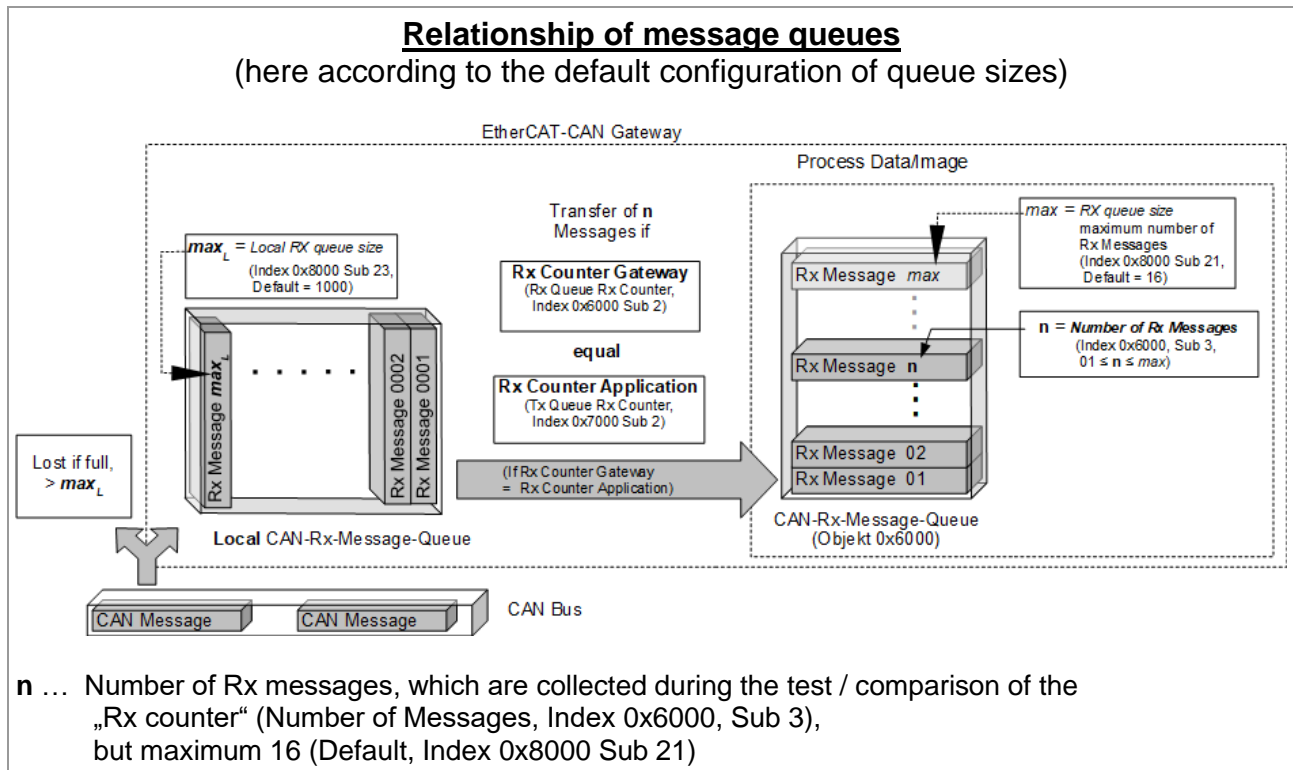
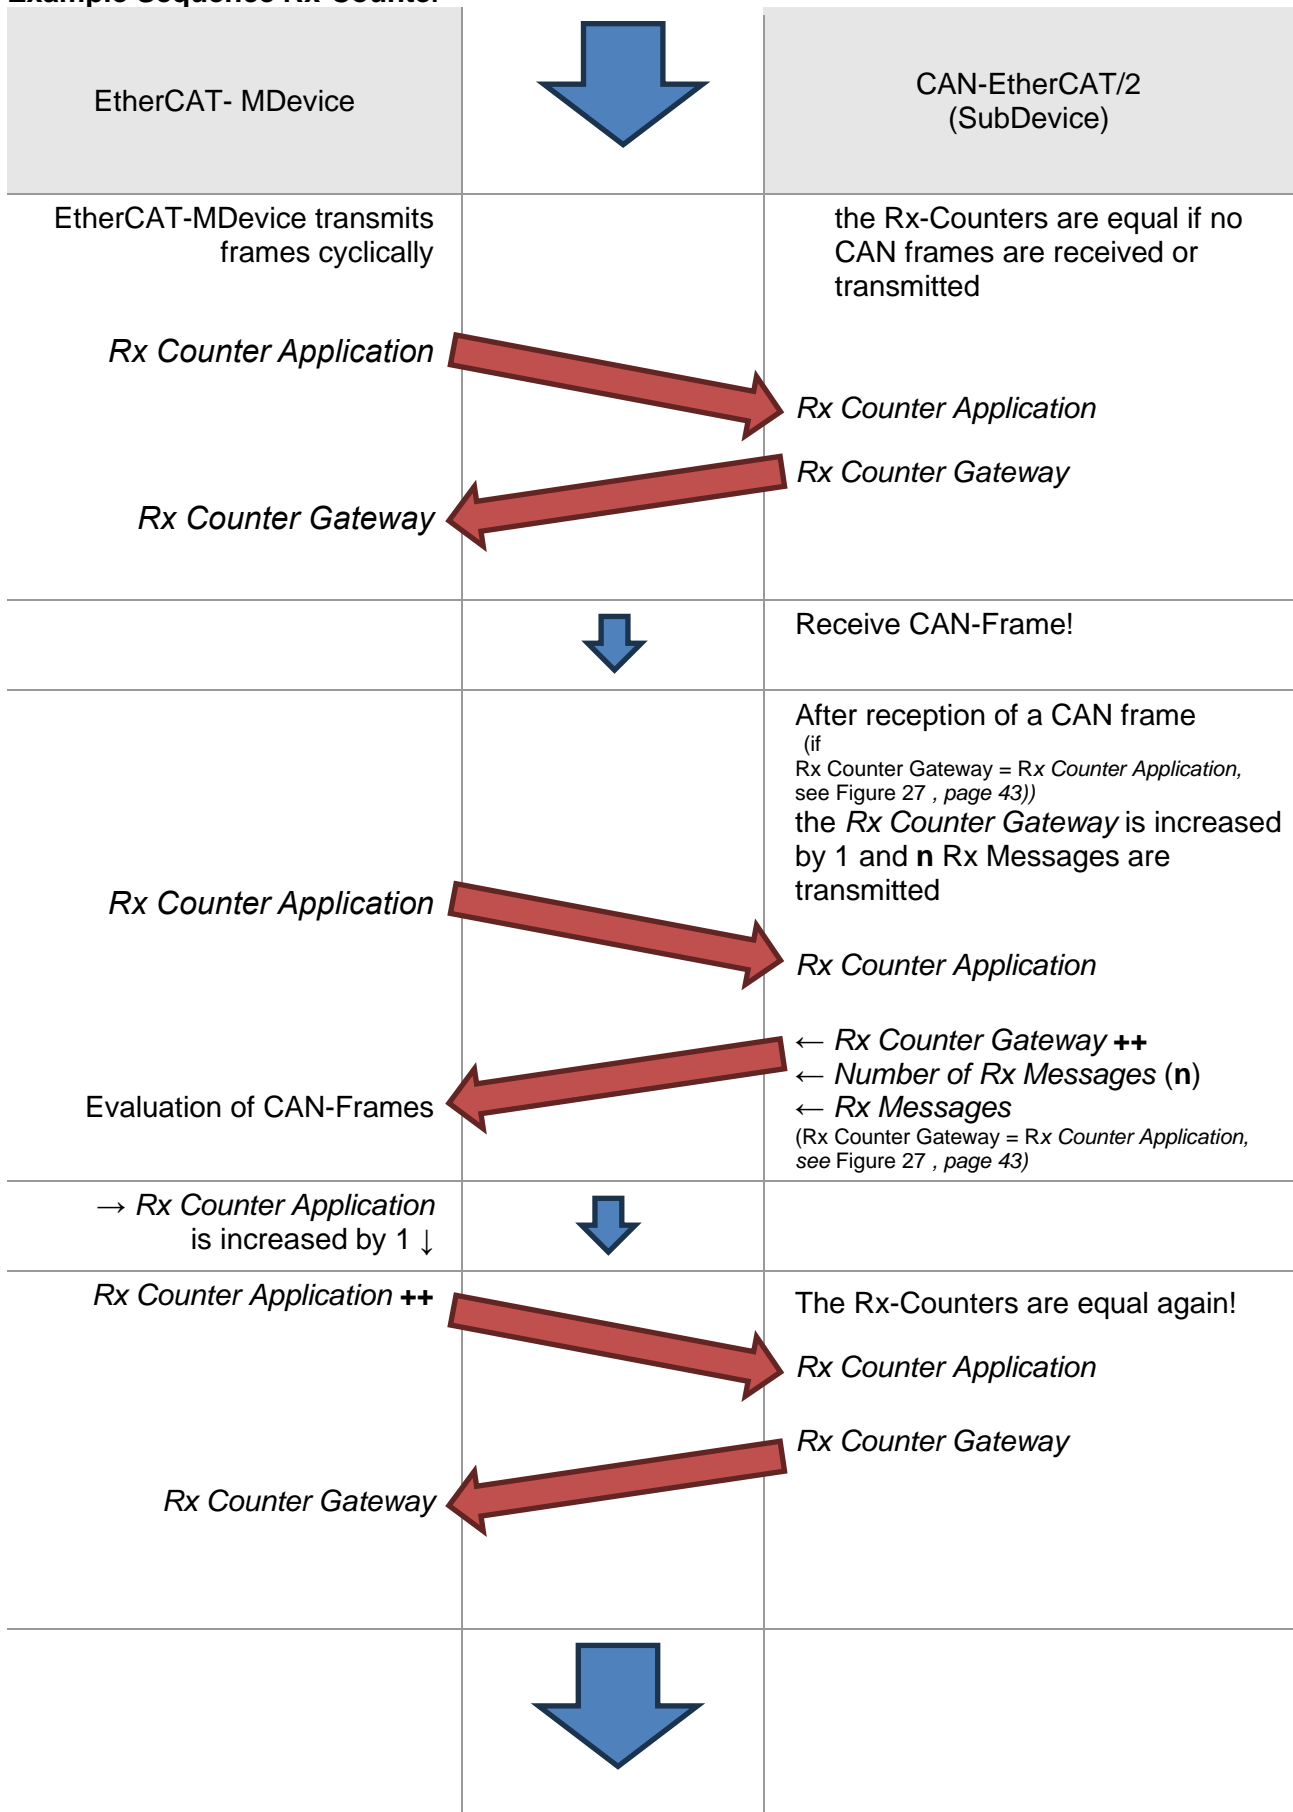

Figure 27: SubDevice Relationship of the CAN Rx message queues
Figure 29: Chronological sequence of the Rx-Counters
For the chronological sequence see the example in Figure 29 on page 45.
- Rx Counter Gateway* The Rx counter is incremented by the Gateway every time new CAN Rx data has arrived and the *Rx Counter Gateway* (0x6000, sub-index 02) is identical with *Rx Counter Application* (0x7000, sub-index 02). This indicates that new Rx data has been written into the process input data (see Figure 27).
See Figure 27 for the relationship of the CAN-Rx-Message-Queues. For 29-Bit-Identifiers objects 0x6001 and 0x7001 are used instead of objects 0x6000 and 0x7000 accordingly.
Rx Counter Gateway The Rx counter is incremented by the Gateway every time new CAN Rx data has arrived and the *Rx Counter Gateway* (0x6001, sub-index 02) is identical with *Rx Counter Application* (0x7001, sub-index 02). This indicates that new Rx data has been written into the process input data (see Figure 27).
This object can only be used with the CAN FD variant CAN-EtherCAT/2-FD. It contains the CAN FD interface input messages. See Figure 27 for the relationship of the CAN-Rx-Message-Queues. For CAN FD objects 0x6002 and 0x7002 are used instead of objects 0x6000 and 0x7000 accordingly. For the chronological sequence see the example in Figure 29 on page 45.
- Rx Counter Gateway* The Rx counter is increased by the Gateway every time new CAN Rx data has arrived and the *Rx Counter Gateway* (0x6002, sub-index 02) is identical with *Rx Counter Application* (0x7002, sub-index 02). This indicates that new Rx data has been written into the process input data (see Figure 27).